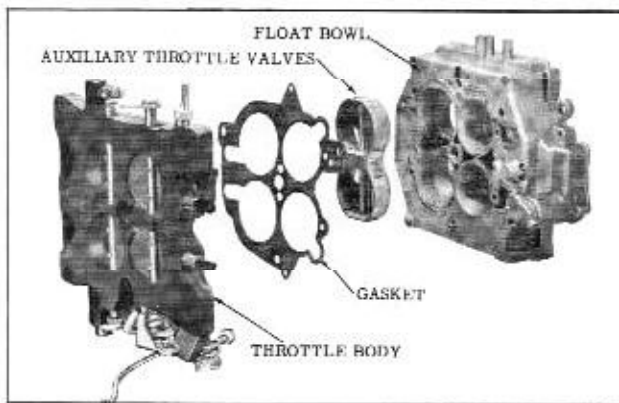

Fig. 8-101 Throttle Body and Auxilliary Throttle Valves
16. Invert the carburetor body and remove the four throttle flange attaching screws. Remove the throttle flange and gasket. (Fig. 8-101)
1. With the carburetor body in the inverted position, install the auxiliary throttle valve assembly so that the calibrated spring operating pin is down. (Fig. 8-101)